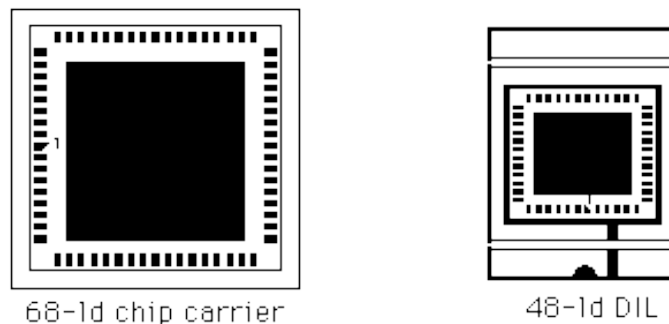

Fig. 2: Position of bondpin #1
2. Position of bondpin #1 (figure 2):